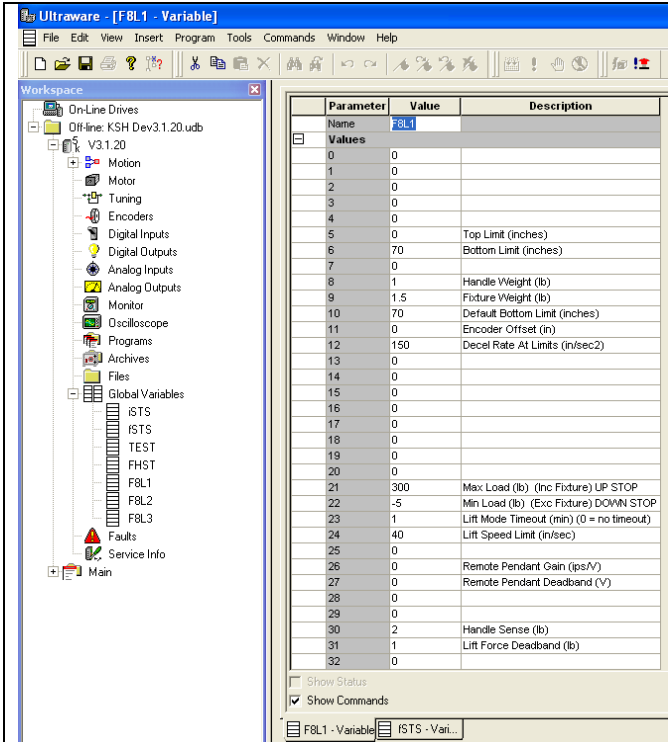

Figure 5-15
- Step 3. Open Global Variable tables F8L1 and fSTS and scroll to fSTS:3. This is the current command on the analog handle in pounds. Add this number to the number in F8L1:8. This is the Handle Weight used to offset the lift load cell. (See Figure 5-15)